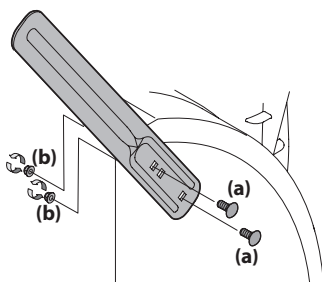

Figure 2-52
1. Remove two screws (a) and lock nuts (b) that secure each drift cutter, and remove them from the sides of auger housing. See Figure 2-52.